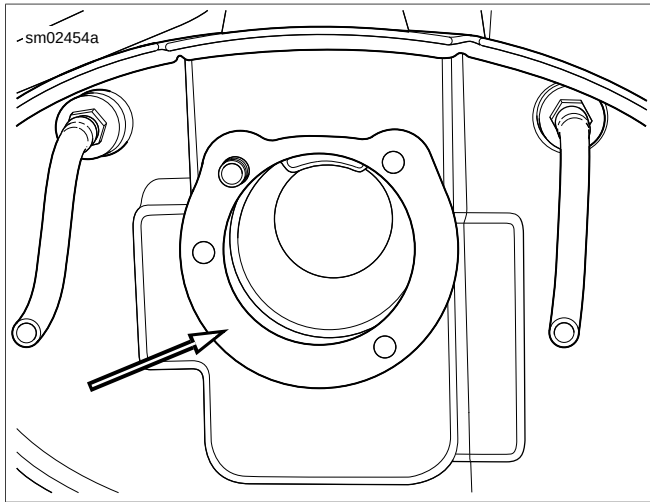

Figure 1-7. Gasket (Typical)
- See Figure 1-7. Position **new** gasket on backplate.